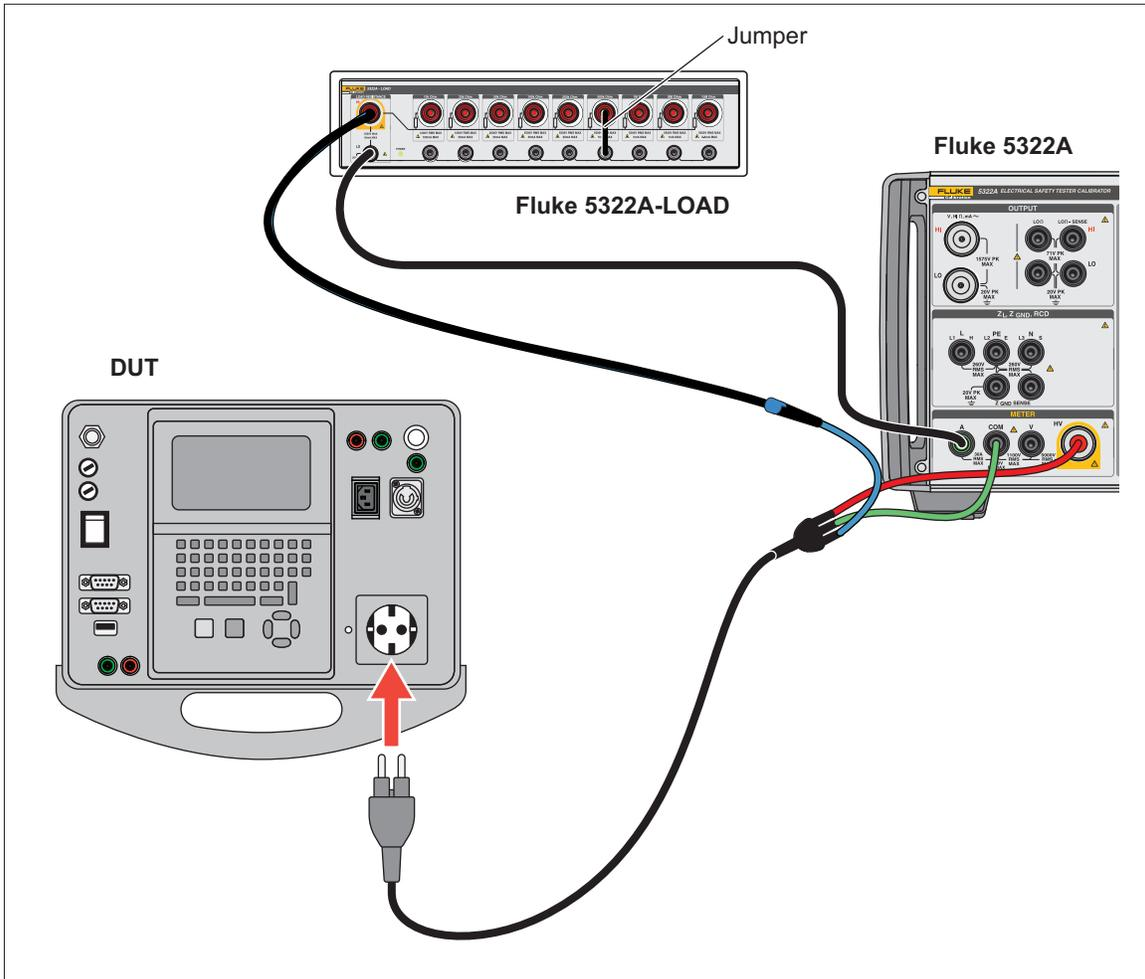

Figure 59. Class I Flash Leakage Current Measurement
3. Connect the Product and DUT as in Figure 59.
4. Choose an appropriate 5322A-LOAD load resistance value to simulate the required leakage current value, and connect using a jumper inserted into the corresponding 5322A-LOAD resistor sockets, as in Figure 59.